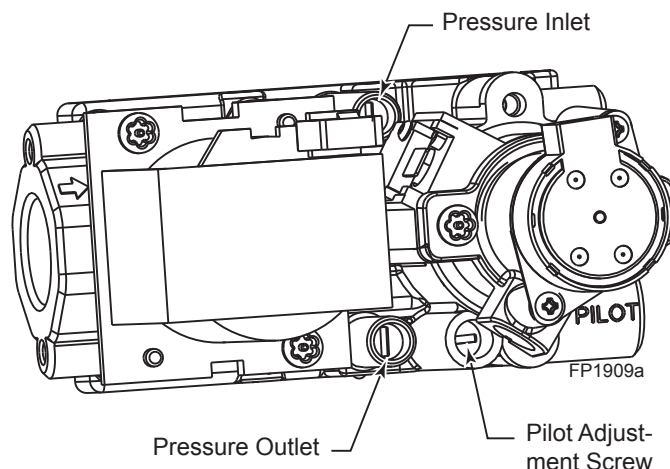

**Figure 29 -
4. To check gas pressures at valve, turn captured screw counter clockwise 2 or 3 turns and then place tubing to pressure gauge over test point. Turn unit to high. *Figure 29* After taking pressure reading, be sure and turn captured screw clockwise firmly to reseal. Do not over torque. Check test points for gas leaks.